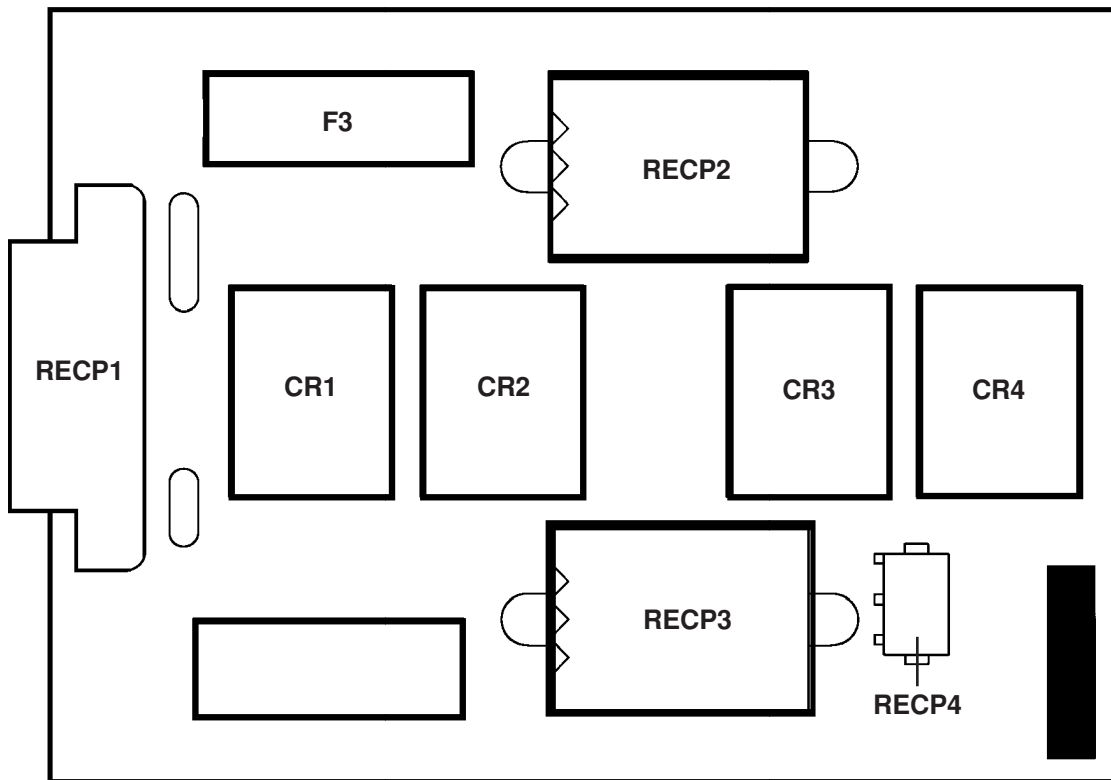

Figure 5-2 Power Distribution Board PCB2
6. Measure voltage at power distribution board PCB2. See Figure 5-2 for detail of PCB2. Look on the board for fuses **F3** and **F4**. Measurements between each fuse and chassis ground are as follows:
Check that CR4 switches when ON pushbutton is pressed. See Figure 5-2 for location of CR4. If CR4 is defective, replace PCB2.</p> <p>2.2. Terminals to fans are not seated together securely and/or not getting 120VAC from Power Distribution Board.
Check terminals and associated wiring for good continuity. Check for 120VAC at terminals.</p> <p>2.3. PL2 and RECP2 on Power Distribution Board (see Figure 5-2 for location of RECP2) are not seated well.